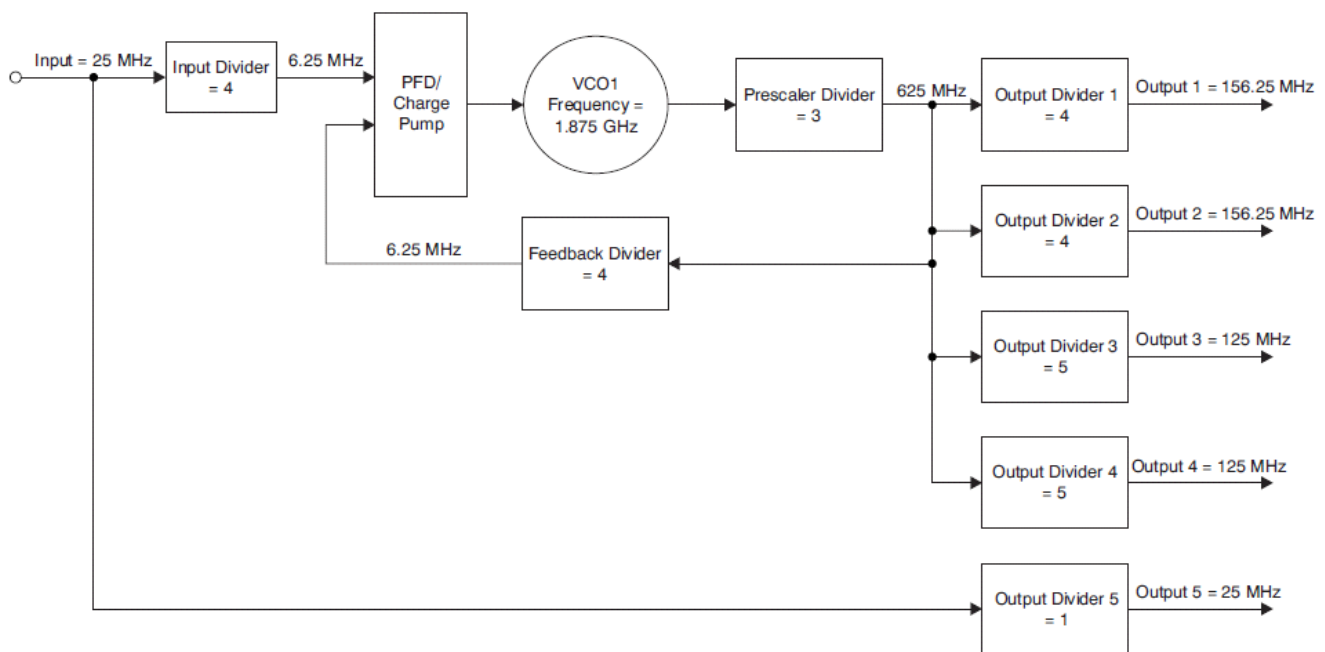

Figure 47. CDCE62005 Settings for Multiple Frequency Synthesis Example
As shown in Figure 47, the CDCE62005 has internal dividers, twin onboard VCOs, a phase frequency detector, charge pump, partially internal loop filter, and LVPECL/LVDS/LVCMOS input and output buffers, all of which completes a PLL. Through the PLL operation, the VCO clock synchronizes with the reference clock input and ultimately with all clock outputs. All outputs are completely synchronized in terms of phase and frequency with the reference clock input. When powering up from the EEPROM, the SYNC signal synchronizes outputs after device power-up.
Step 1. From Figure 47, it can be inferred that the relationship between the output frequency and the input frequency is described by these equations,
Figure 47 illustrates this configuration.
(Loop Settings in Figure 47, CP Current at 3.5mA)